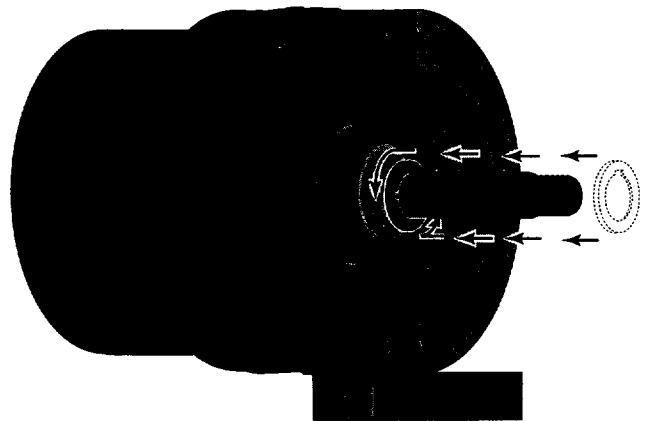

Figure 25
6. Push the shaft seal and seal spring onto the shaft, after making sure that the seal faces and shaft are clean. *Take care that the shaft shoulder does not damage the carbon seal face.* Follow the seal spring with the spring holder; compress the spring and give the spring holder a quarter turn to lock it under the first shaft key (see Figure 25).